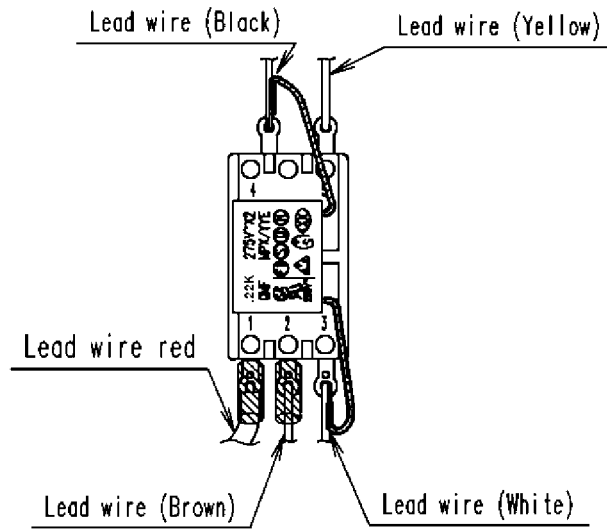

Figure 10
1. Install leadwire Black, Yellow, Brown, White and lead wire brown (from power cord) with a main switch and a capacitor as figure 10.